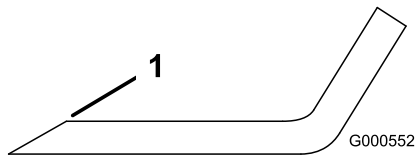

Figure 39
1. Use a file to sharpen the cutting edge at both ends of the blade (Figure 39). Maintain the